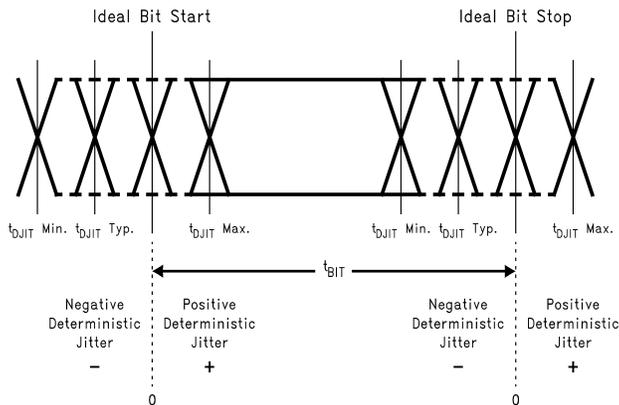

Figure 9. Deterministic Jitter and Ideal Bit Position
- (4) t_{RJIT} specification is the rms jitter measurement of the serializer output when the device is transmitting SYNC pattern.
(5) t_{DJIT} specification is measured with the serializer output transmitting PRBS pattern from the internal BIST mode. It is a measurement of the center distribution of 0V (differential) crossing in comparison with the ideal bit position. See Figure 9